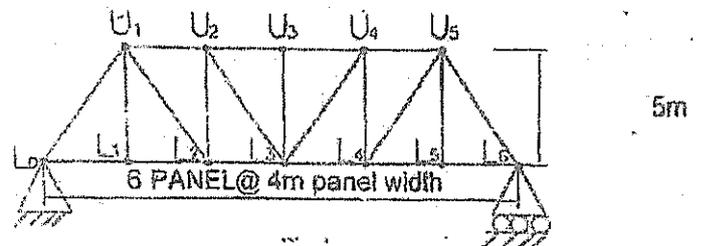

Figure 4
1. Draw the influence line diagram for forces in members U_3L_3 and for the pin jointed truss shown in Figure 4. There are 6 panels of 4 m span each and height of truss is 5 m.